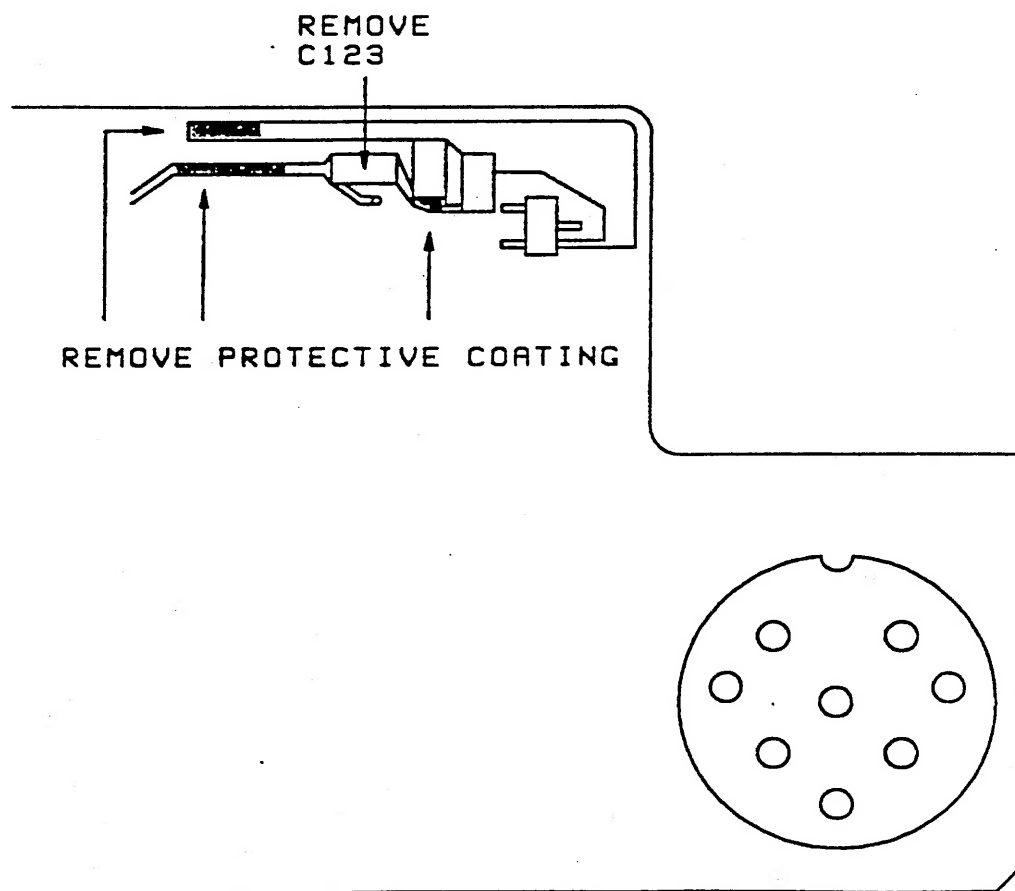

FIGURE 11
24. Remove C123. This chip capacitor is located in the corner of the board under the LCD assembly. Figure 11
25. Remove the protective coating from the foils as shown in Figure 11.